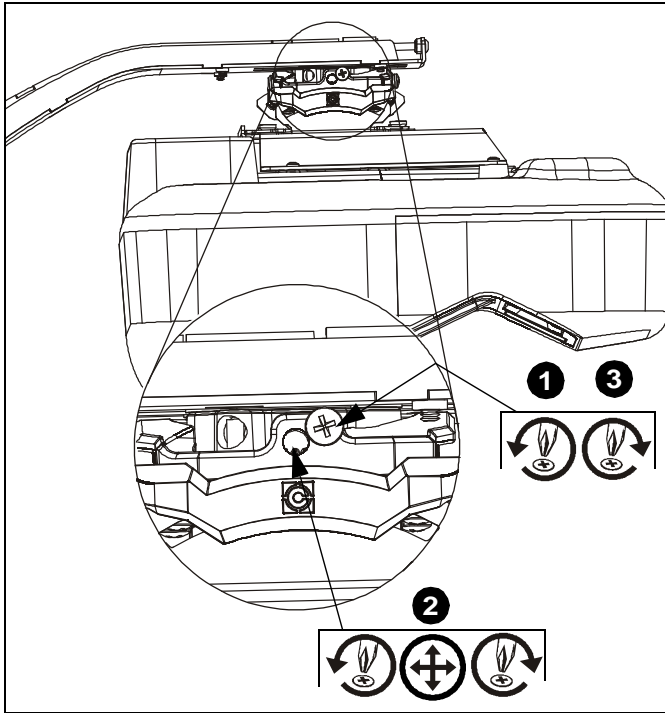

Figure 13
1. Loosen yaw adjustment locking screw using a #2 Phillips screwdriver. (See Figure 13)
3. Tighten yaw adjustment locking screw using a #2 Phillips screwdriver. (See Figure 13)